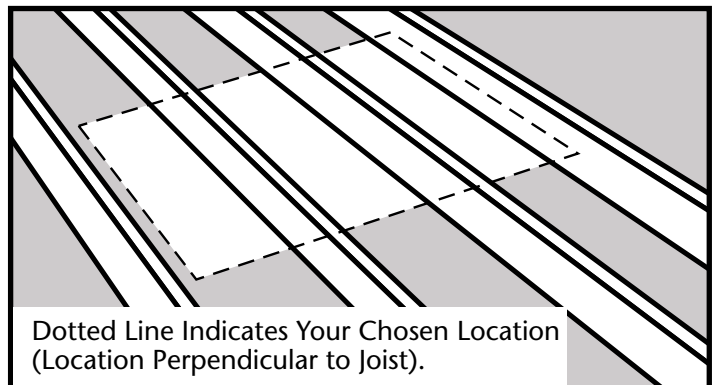

Figure 9
(B) If the chosen location is perpendicular to the joists, mark the rough opening width on top of the joists as shown in Figure 9.